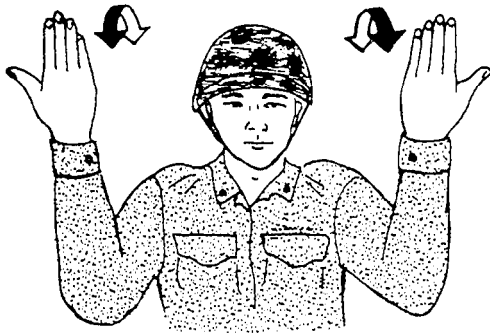

Figure 11-29.—To direct helicopter forward.
1. To Direct Helicopter Forward. Extend your arms and hands above your head with your palms facing away from the helicopter. Move your hands in a manner that simulates a pulling motion. (See fig. 11-29.)